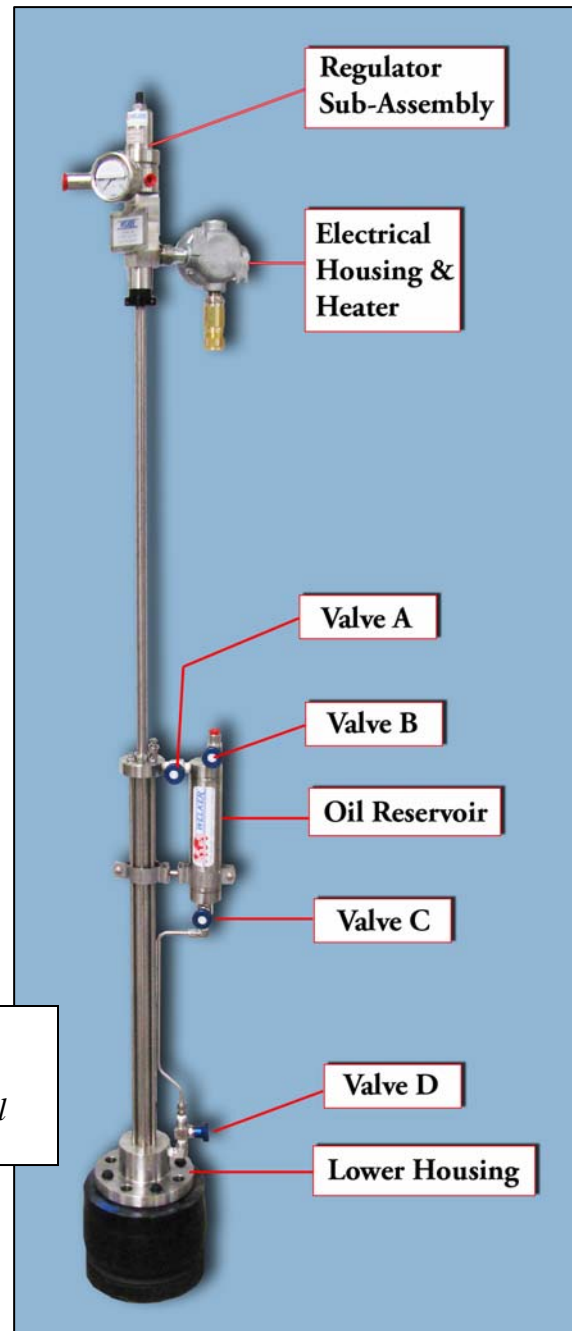

Figure 1
3. Open valve A and close valves C and D (Figure 1 on page 4).